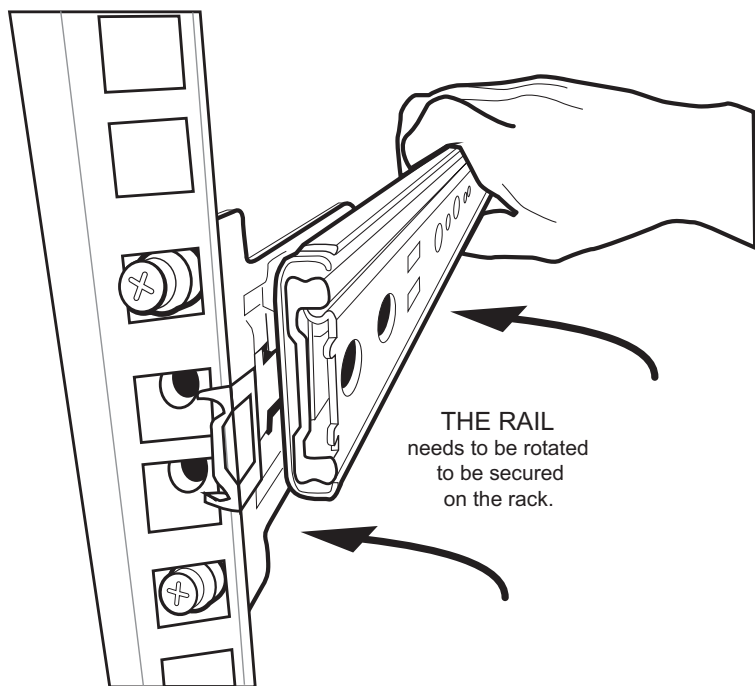

Figure 2.1 Securing the Slider Rail to the Front of the Equipment Rack
- 1a. Attach the front end of the slider rail to the front edge of the equipment rack. See figure 2.1 on page 15.